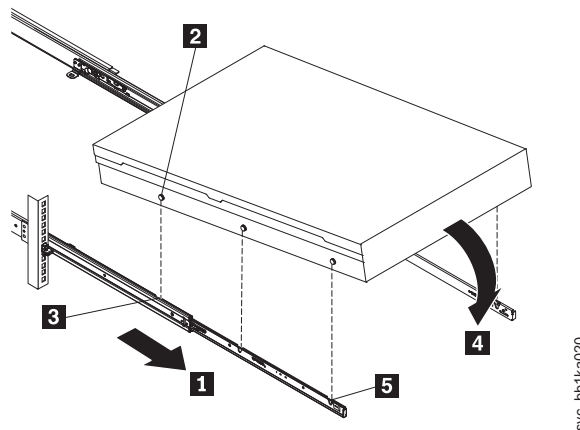

Figure 51. Installing a 2145-CG8 or 2145-CF8 node in the slide rails of the rack
- a. Pull the slide rails forward (**1** in Figure 51) until they click twice into place.